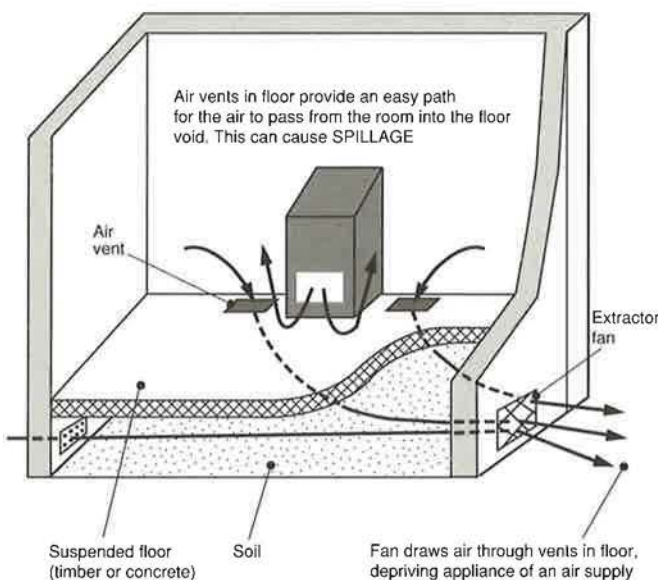
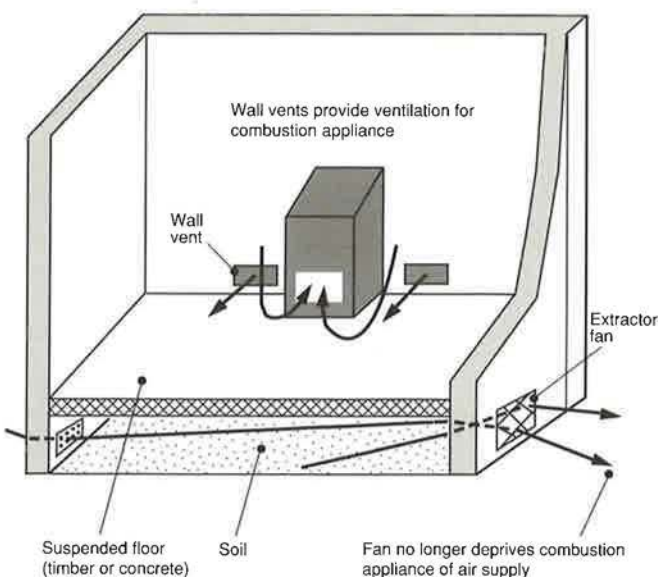

Figure 5 Spillage caused by air flowing through floor vents
Figure 6 Wall vents ventilating combustion appliance
Beware! Some open-flued combustion appliances are vented from the underfloor space by means of a vent in the floor near the appliance. Air extraction from the void will almost certainly reverse the air flow through the vent, thereby limiting the air supply to the appliance (see Figure 5). Vents in the floor should therefore be sealed and replaced with vents in an external wall above floor level (see Figure 6).
- Replace existing floor vents with wall vents (see Figure 6)
- Increasing the ventilation to the room where the spillage occurs, eg by the use of an air vent in the wall (see Figure 6) or trickle ventilators in the windows, or by opening doors and windows. However, this option is not recommended: the occupants have control over the ventilation, and they may inadvertently cause spillage by closing a vent or shutting a door. Other possible drawbacks are uncomfortable through-draughts, and larger heating bills because the dwelling is less energy-efficient